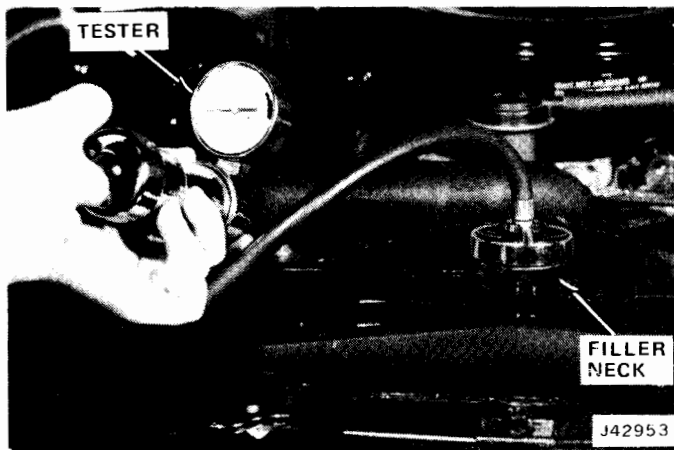

Fig. 2-8 Cooling System Pressure Test
- (1) Carefully remove radiator pressure cap from filler neck and check coolant level.
- (2) Wipe inside of filler neck and examine lower inside sealing seat for nicks, dirt, and solder bumps.
- (3) Inspect overflow tube for dents or internal obstruction. Run a wire through tube to be sure it is clear.
- (4) Inspect cams on outside of filler neck. If cams are bent, seating of pressure cap valve and tester seal will be affected. Bent cams can be reformed if done carefully.
- (5) Attach pressure tester to filler neck (fig. 2-8). DO NOT FORCE.